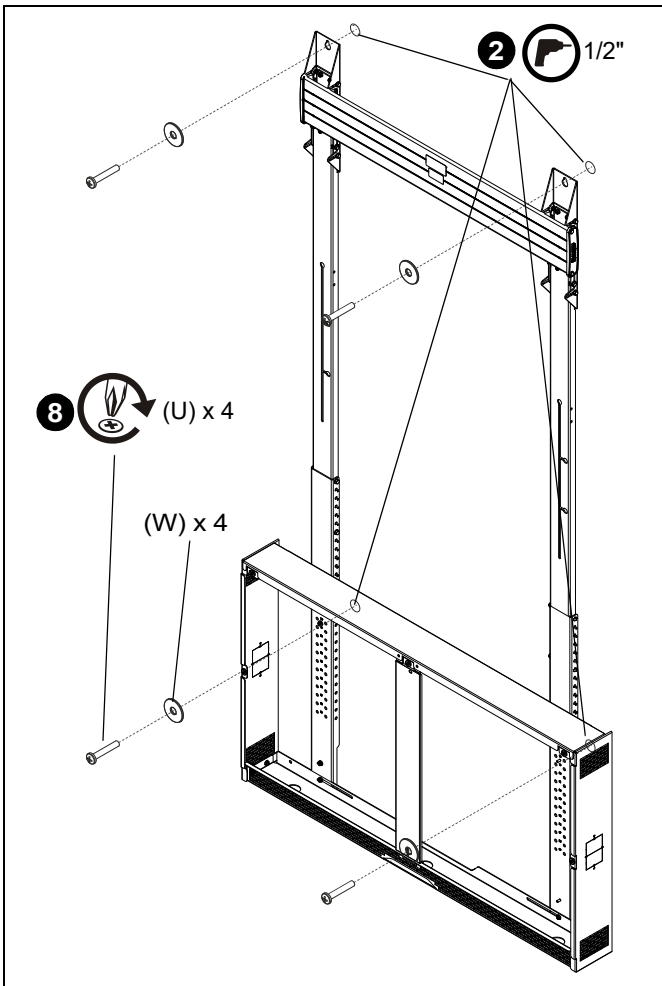

Figure 11
1. Mark hole locations at each mounting location based on locations of bottom uprights (F/G), mounting brackets (Q), and steel studs. Use a level to ensure of an even mount. (See Figure 11)
2. Drill 1/2" holes on marked hole locations. (See Figure 11)
8. Use four 1/4-20 x 1 3/4" Phillips pan machine screws (U) and four 1/4" washers (W) to secure mounting brackets (Q) and bottom uprights (F/G) to wall. (See Figure 11)